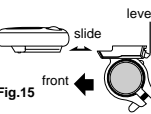

Fig. 15
- Slide main unit onto the bracket from front until it clicks into position. To remove, pull it off forward while pushing down the lever. (fig. 15)